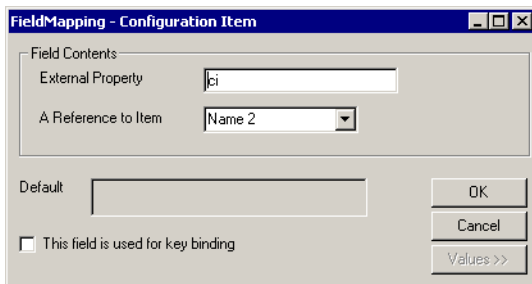

Figure 27: Field Mapping - Configuration Item Window
9. Double-click on the entry which has a field value of **Configuration Item**. The Field Mapping-Configuration Item window opens as shown in Figure 27.